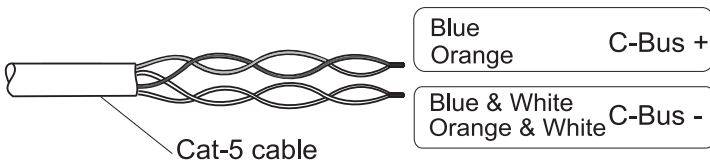

Figure 3. C-Bus cable conductor assignments
- 2) Swing the lower end of the fascia about 5 mm away from the grid, until it is free (refer to Figure 3).
Figure 3 shows the cable wiring scheme. Tie the twisted pairs together as shown. Use bootlace crimp connectors or twist the wires together. Do not use soldered connections; they are not reliable.